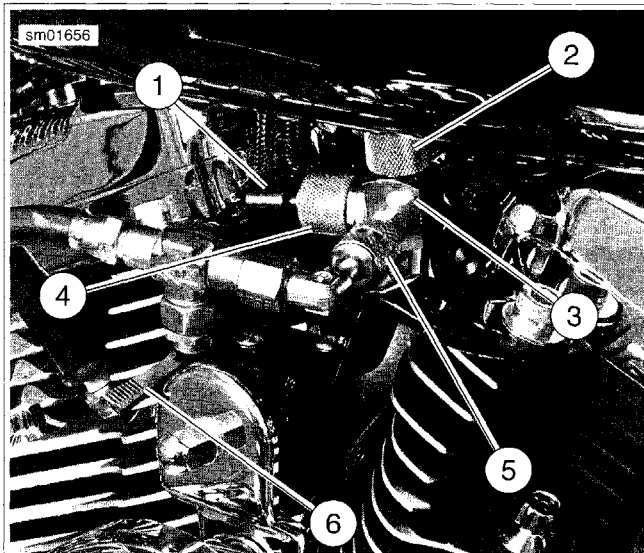

Figure 4-85. Assembling Adapter, Gauge and Fuel Supply Hose to Fuel Tank: All Models (XL 1200C Shown)
- a. See Figure 4-85. Pull up on sleeve of fuel tank quick-connect fitting (2) and insert neck of FUEL PRESSURE GAUGE ADAPTER (3) into quick-connect fitting.
- c. In the same manner, connect vehicle's fuel supply hose fitting (1) to quick-connect fitting (4) on FUEL PRESSURE GAUGE ADAPTER.
4. See Figure 4-85. Verify that the fuel valve (6) and air bleed petcock on the FUEL PRESSURE GAUGE (Part No. HD-41182) are closed.